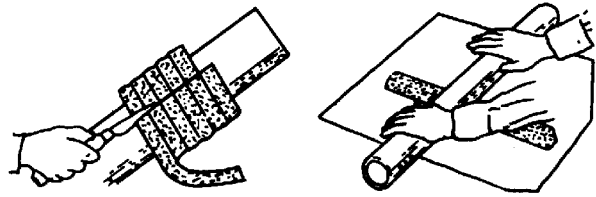

Figure F-5.
Step 1: Determine how much bulk packing will be required to fill the seal cavity and wrap it around a rod the same diameter as the shaft. With the packing wrapped around the rod, cut through each turn as shown in Figure F-5.